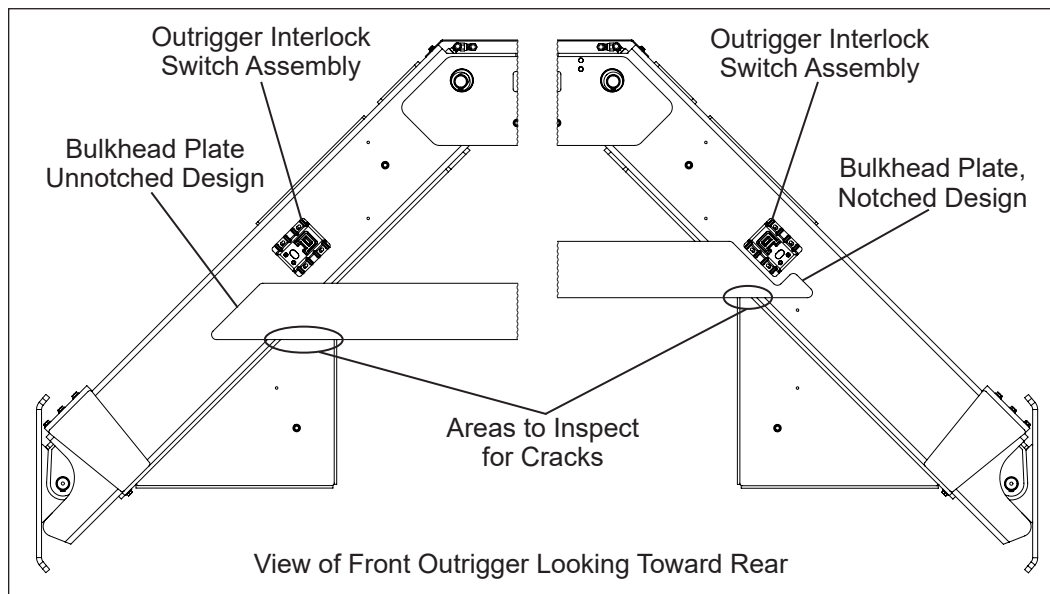

Figure 3 — Crack Inspection
3. Inspect for cracks in the bottom portion of the bulkhead plate at both ends (refer to Figure 3). If cracks are found, mark them with a paint stick or felt-tip marker.